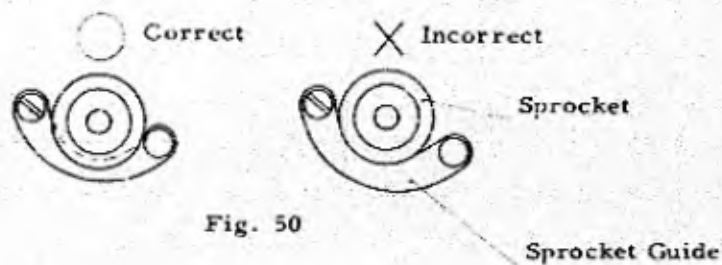

Fig. 50
3. Care should be taken not to strike the sprocket guide against the sprocket. See Fig. 50.